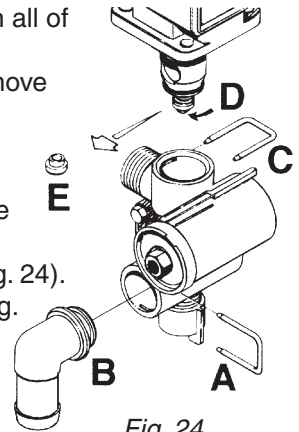

Fig. 24
2. Cautiously remove clip **(A)** (Fig. 24) and remove hose **(B)** (Fig. 24) for the constant pressure device. When the housing is drained, bring the sprayer up to operating pressure. If fluid continues to leak from the housing, the valve cone **(E)** (Fig. 24) must be changed.
3. Shut the sprayer off and remove clip **(C)** (Fig. 24). Pull the electrical motor off the valve housing.
4. Remove screw **(D)** (Fig. 24) and replace the valve cone **(E)** (Fig. 24). Reassemble in reverse order. Secure screw **(D)** (Fig. 24) with Loctite.